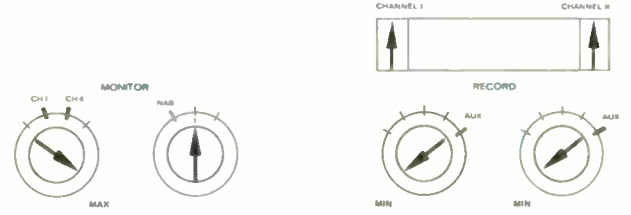

Fig. 6.3-56
- Set controls per fig. 6.3-56.